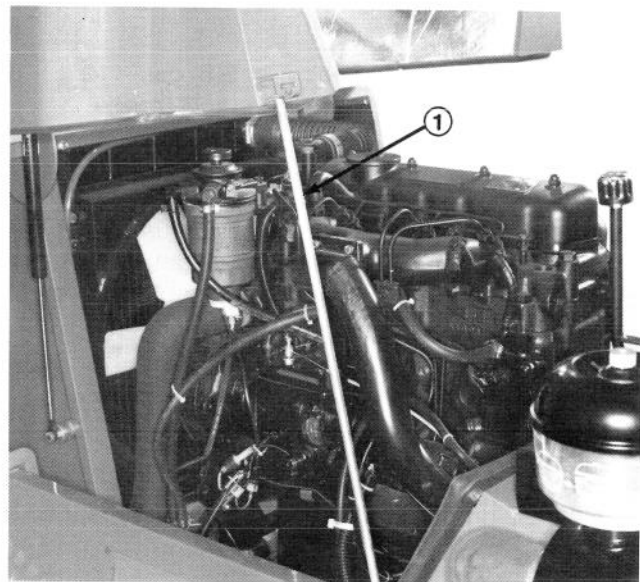

Figure 2
2. Open engine cover and hold it upright with support rod. (Fig. 2).